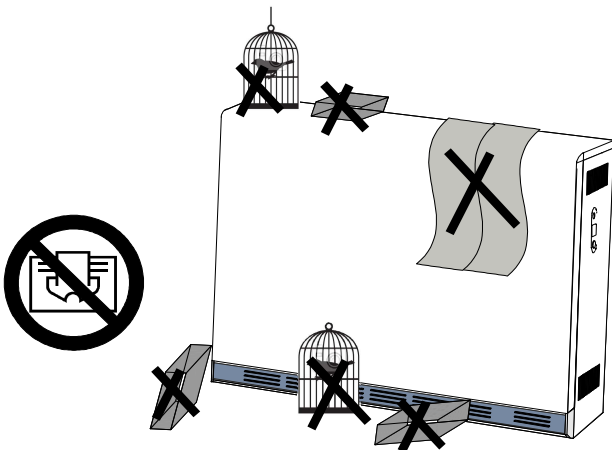

Fig. 1: Warning sticker on the storage heater
- Do not cover the storage heater! (Fig. 1)